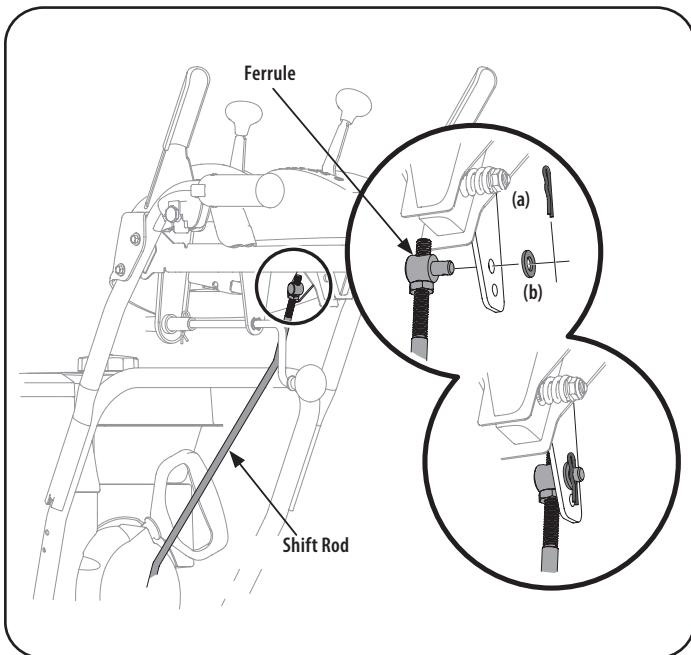

Figure 9
13. Remove cotter pin (a) and washer (b) from ferrule on end of shift rod. See Figure 9 inset.